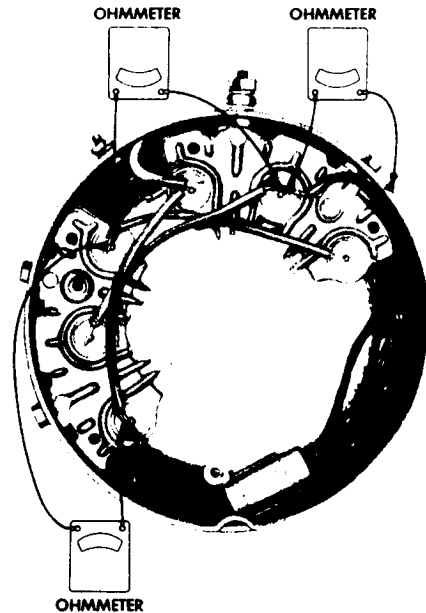

Figure 9—Checking stator windings. **NOTE:** Epoxy covering and lead tape used on some models not shown in illustration.
**Ohmmeter Method:** Connect the ohmmeter to the two pairs of stator leads as shown in Figure 9. Use an ohmmeter with 1½ volt cell, and use the lowest range scale on the ohmmeter. If either reading is very high (infinite) the stator winding is open.
**Test Lamp Method:** Check the stator for opens by connecting a test lamp of not more than 12 volts to the two pairs of stator leads in the same manner shown in Figure 9. **CAUTION:** Do not use a 110-volt test lamp. If the lamp fails to light in either check, the stator is open.
To check for grounds, connect the test lamp from either stator lead to the Delcotron generator ground screw in the same manner shown in Figure 9. Then reverse the lead connections. If the lamp lights in both checks, the stator is grounded.